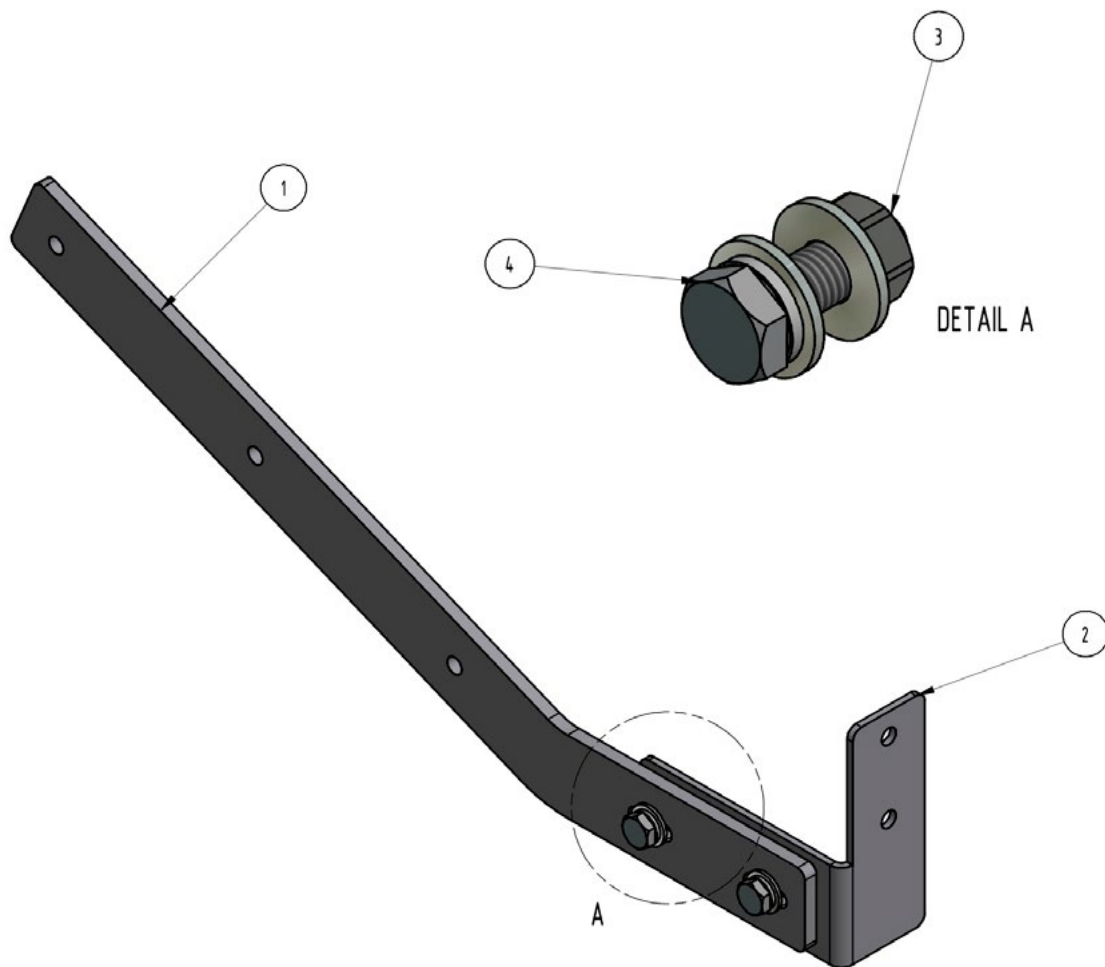

Figure A39
**Adjustable Fascia Bracket (See Figure A39)**